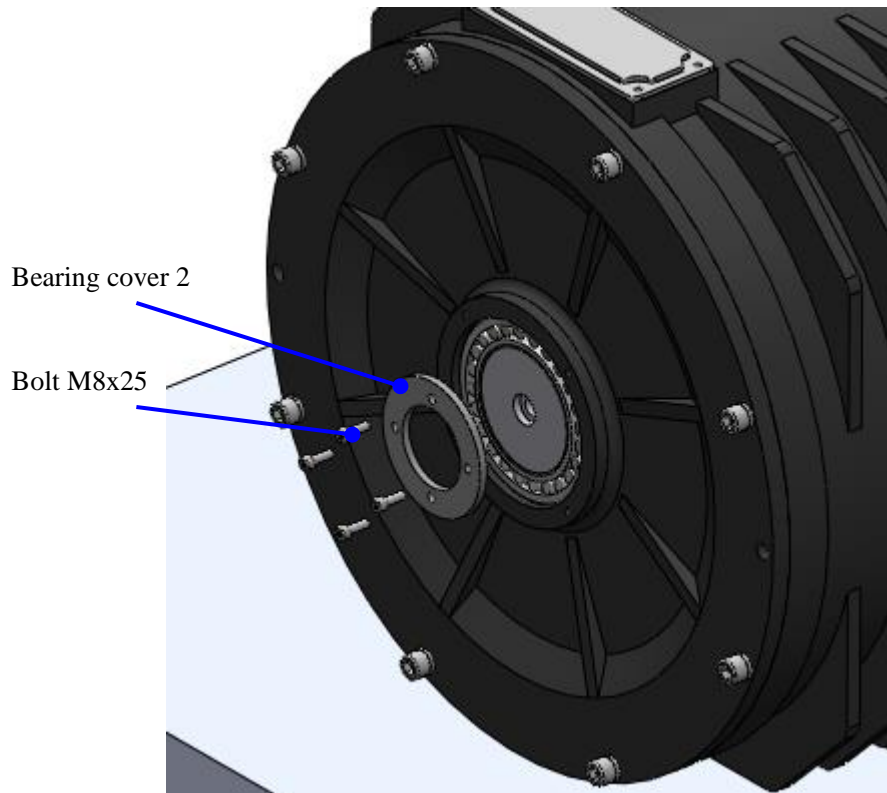

Figure 113: Remove Bearing cover2
5. Remove the bolt M8x25 (4 pieces) with the end wrench, then remove the Bearing cover 2. See Figure 113.